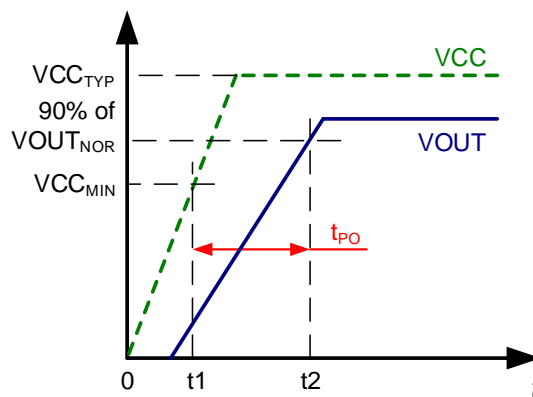

Figure 5: Power On Time ( $t_{PO}$ )
- $t_2$ :  $V_{OUT}$  settles within ±10% of its steady state value under an applied primary current (see Figure 5).